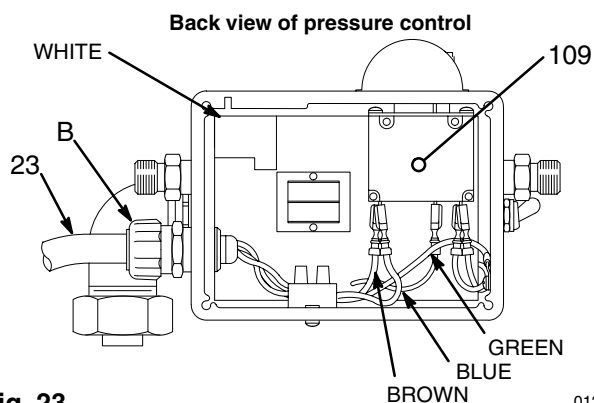

Fig. 23
2. Remove the back pressure control plate (16).
4. Loosen the strain relief bushing (B). Remove the power supply cord (23). See Fig. 23.